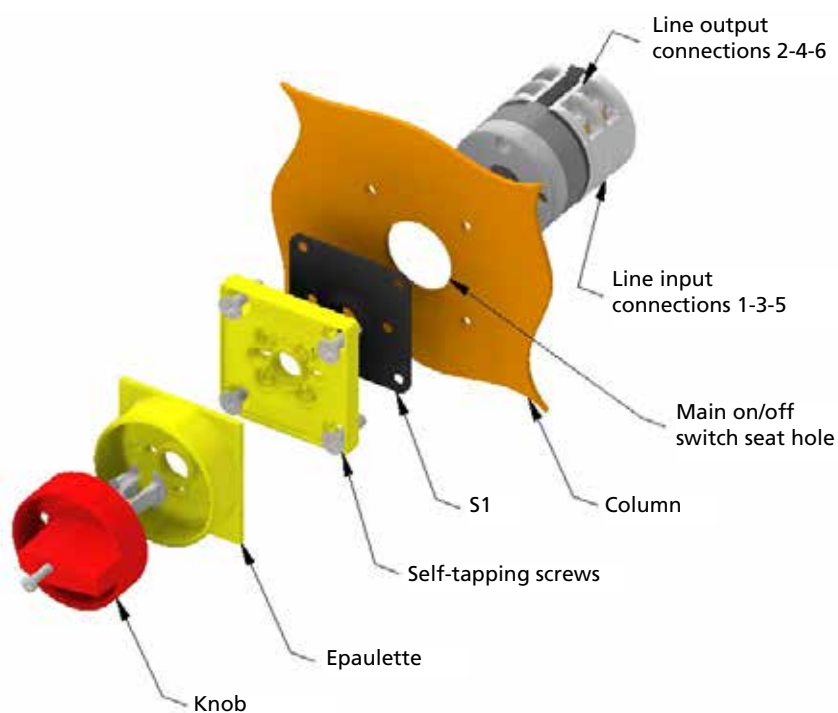

fig.58
5. Position the isolating switch in the hole in the pillar, connecting the relative electric cables, finishing the assembly with the application of the yellow frame and of the red knob as in fig. 58.
- ▶ Have earthing connected, to the structure of the crane, corresponding to the handling points for this purpose (fig. 58).